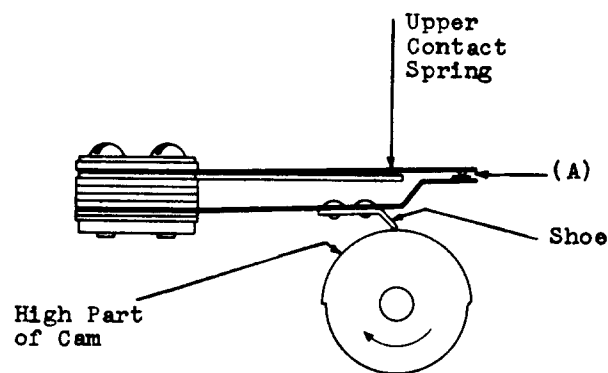

Fig. 6 — High-speed Cam Assembly — Method of Measuring Contact Pressure
2.15 **Contact Pressure:** Fig. 6(A) — With the shoe of the lower contact spring on the *high* part of the cam, the contact pressure between the upper and lower springs measured at the end of the upper spring shall be